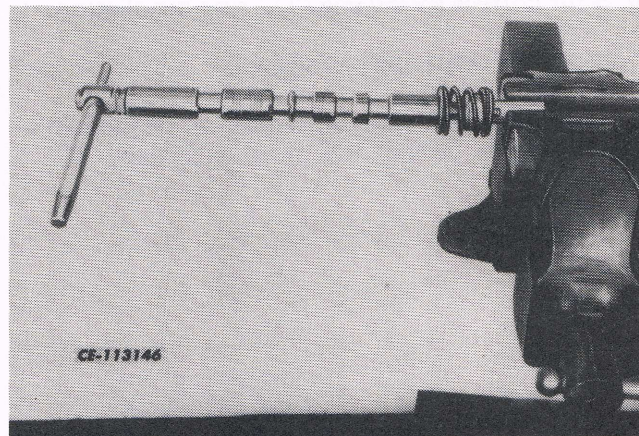

Fig. 9
5. Remove the spool from the valve body and remove the spool end "O" ring seal and retainer. Clamp the detent actuator in a vise with brass jaws and unscrew the spool using a punch inserted through the spool as illustrated in Fig. 9.